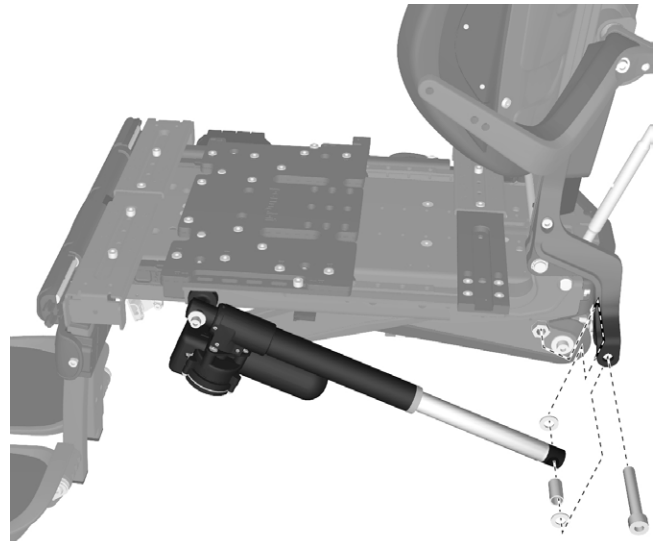

Figure 214. Remove the rear attachment screw of the back rest actuator.
7. Remove the rear attachment screw of the back rest actuator. See fig. 214. Fold the backrest forward as the screws are removed to avoid that the backrest is falling backwards.